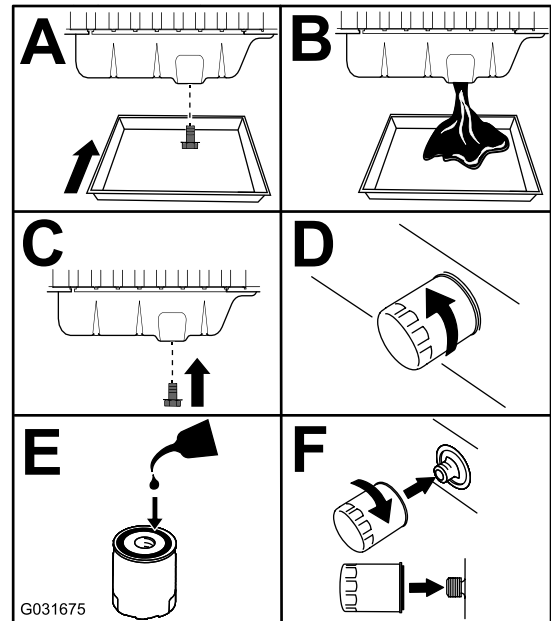

Figure 79
3. Replace the engine oil and filter (Figure 79).